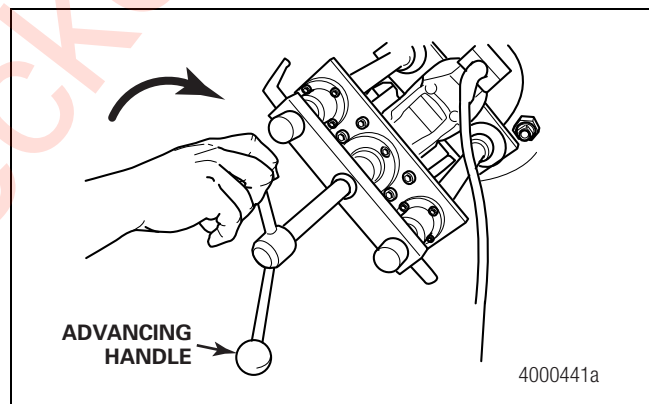
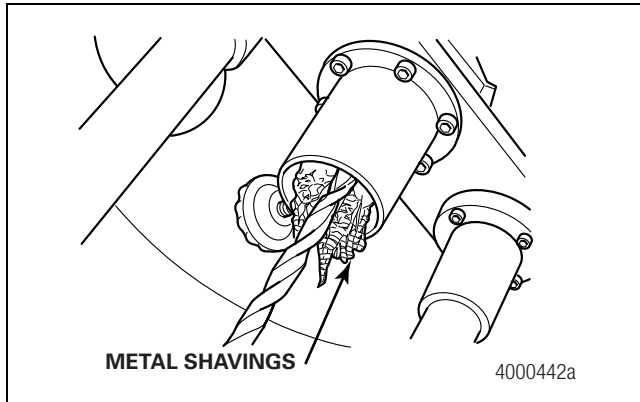

Figure 2.34
Figure 2.35
9. Turn the advancing handle CLOCKWISE until the drill bit bottoms out on the spindle. Then, back off the handle one full turn. Figure 2.34.
10. Turn the motor ON and drill into the spindle by slowly turning the advancing handle CLOCKWISE with a smooth, steady feed. Remove the drill bit guide periodically to remove metal shavings. No lubrication is needed during the drilling operation. Check that the guide rails are clean to ensure that the drill will advance smoothly. Figure 2.34 and Figure 2.35.